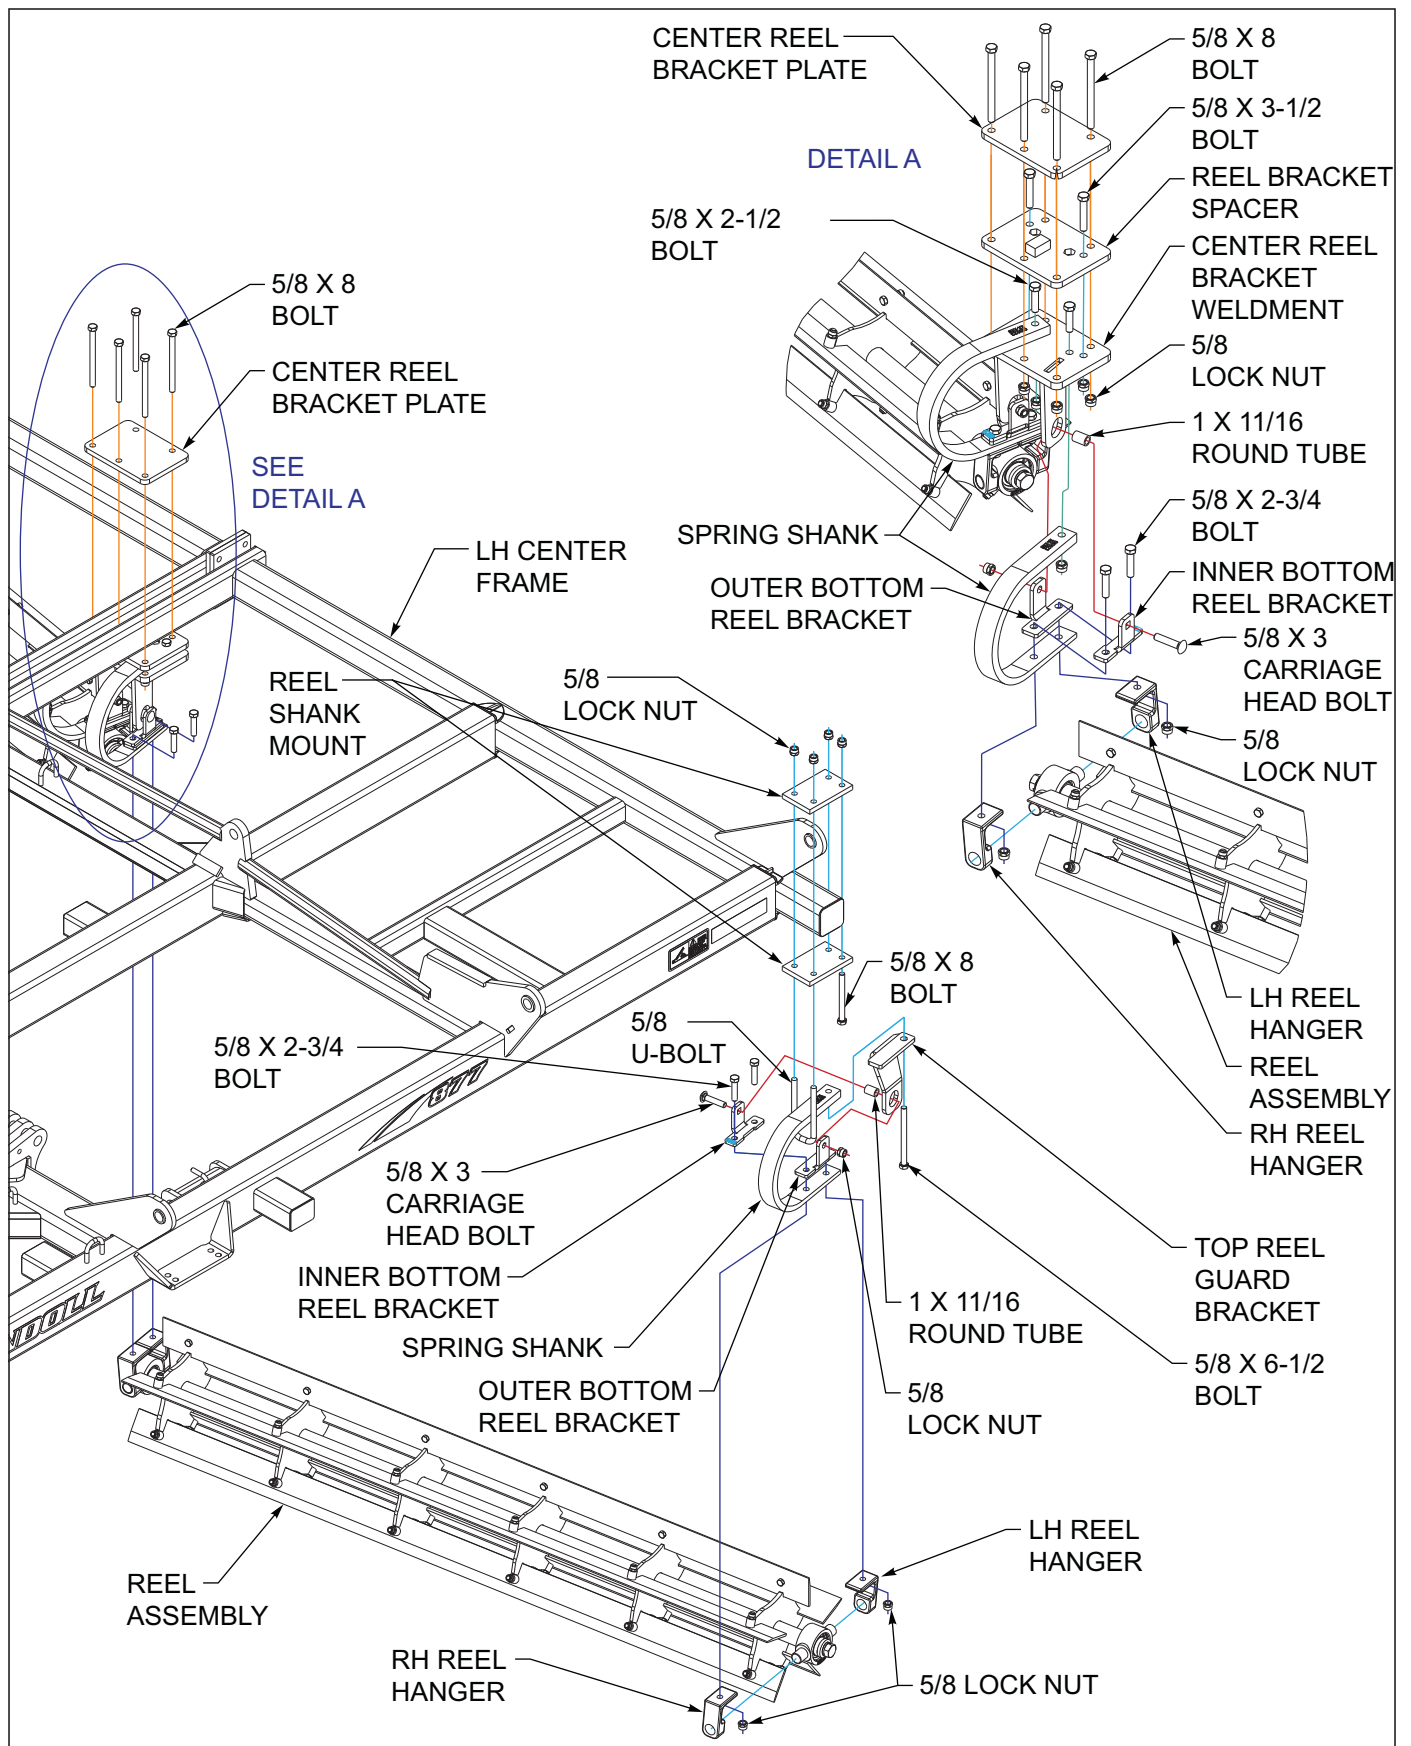

Figure 3-26: Reel Assembly
- b. The inner reel bracket (with square hole) must be placed toward the reel blades *See Figure 3-26*.
- h. Carefully lift reel assembly and loosely bolt top reel bracket plate to frame as shown in *See Figure 3-26* using 5/8 x 8 bolts and 5/8 lock nuts *See Figure 2-18 through 2-23 for location on frame.*
- a. Set inner bottom reel bracket on top of outer bottom reel bracket and loosely attach to top reel guard bracket using 5/8 x 3-1/4 round head square neck screw, round tube spacer, and hex lock nut. The inner reel bracket (with square hole) must be placed toward the reel blades *See Figure 3-26*.